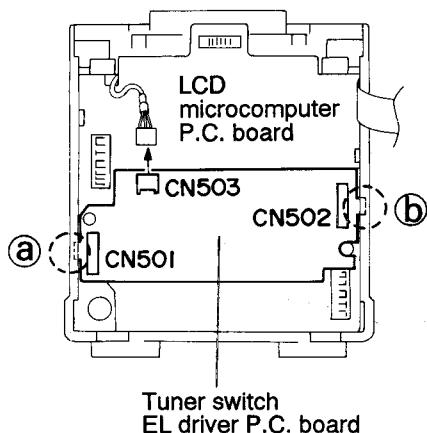

Fig. 5-20
4. After removing the knob from the front face of the body and two screws ⑫, dismount the volume escussion.
■ Removing the tuner switch EL driver P.C. board and microcomputer P.C. board (See Figs. 5-20 and 5-21)
1. • While expanding the engagement sections ④ and ⑤ with the front cabinet, remove the tuner switch EL driver P.C. board.
2. • Remove the one screws ⑬.
- While expanding the engagement sections ④ and ⑤ with the front cabinet to outside, remove the LCD microcomputer assembly.